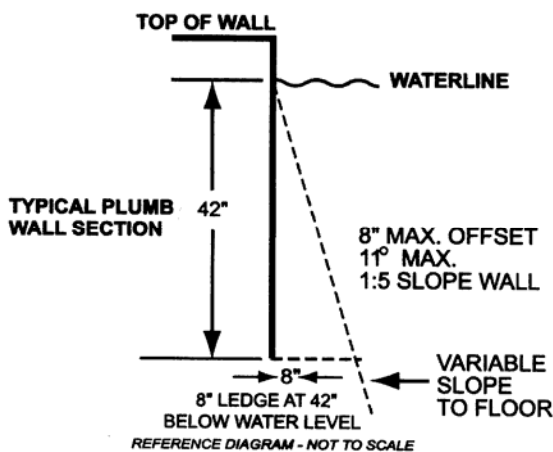

Figure 4- Offset ledges
**5.5.1.1** Offset ledges, located less than 42 inches (1067 mm) below waterline shall be proportionately less than 8 inches (20.3 cm) wide and fall within 11° from plumb, measured from the top of the waterline. See figure 4.